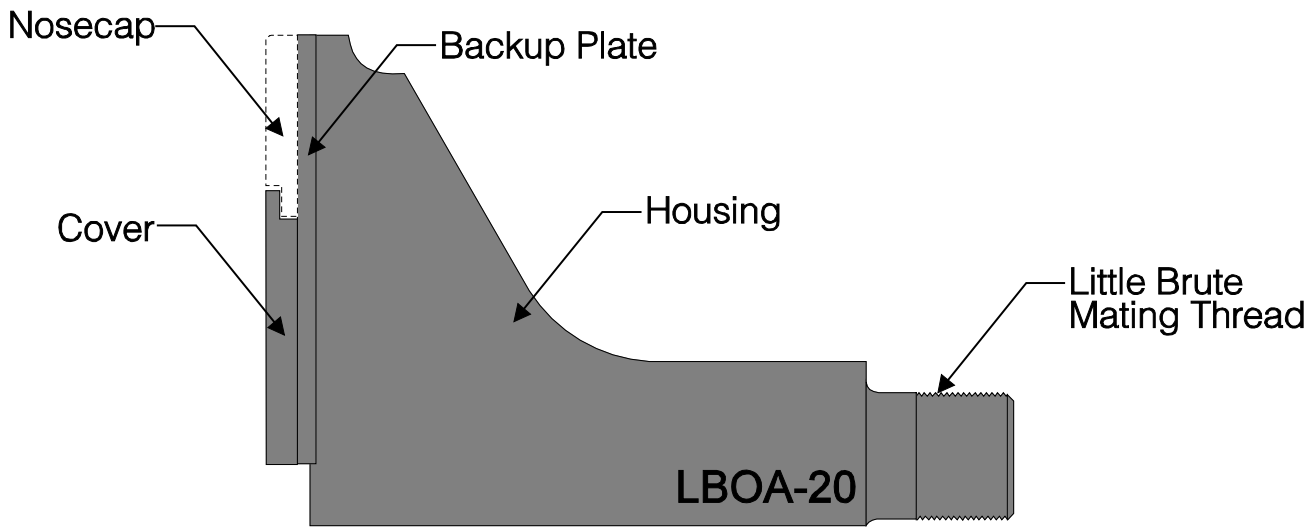
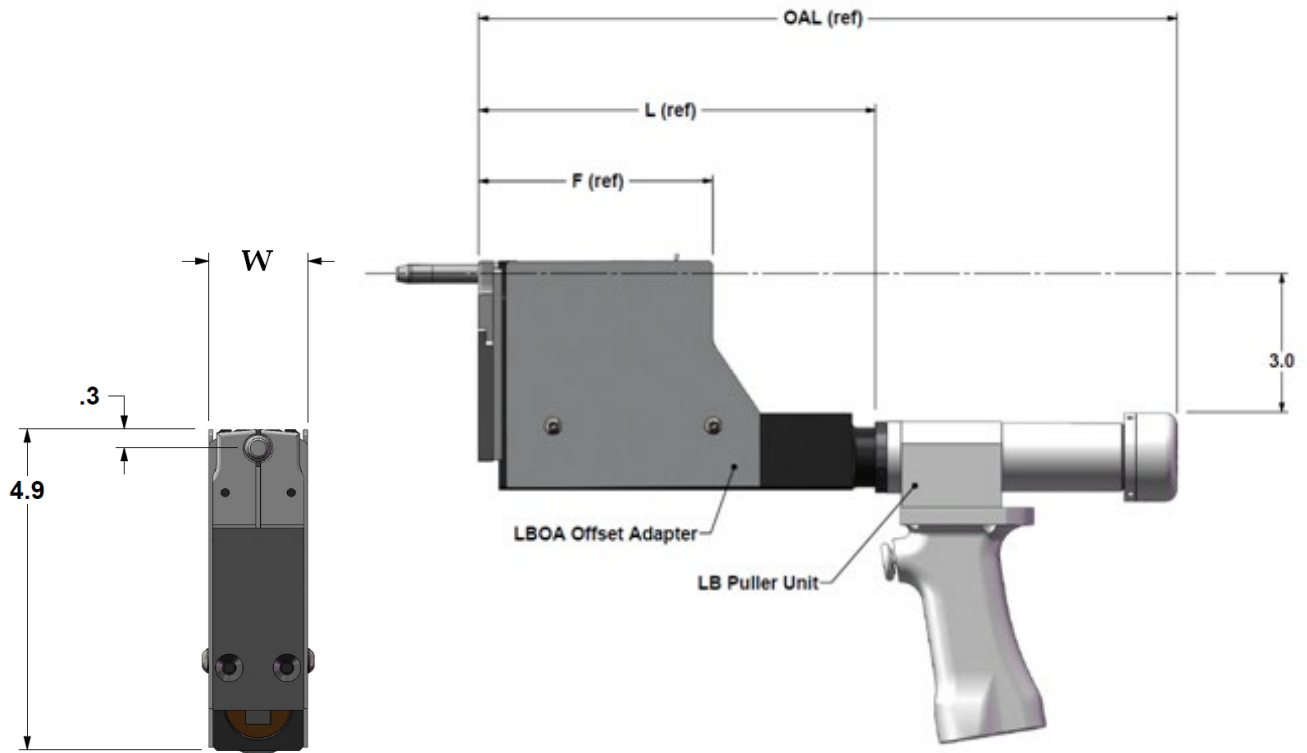

Figure 1-2
Figure 3-1
2. *Little Brute Offset Adapter without Finger Guard* (shown in Figure 1-2): These are available by the LBOA-xx model number and offer access to more restricted areas (see Figure 3-1).
- Attaches to the Little Brute (LB) series of puller units. See the Little Brute Puller Unit Operations, Maintenance, and Repair Manual for additional safety information.
- Requires only 0.300-inch lateral clearance (see Figure 3-1).
Mandrel Selection: The LBOA uses special LBOA mandrels (refer to FTI Tooling Catalog, Section 2). See Figure 3-1.
SAFETY: Disconnect the LB Puller Unit (see Figure 3-1) from the PowerPak before attaching the LBOA.